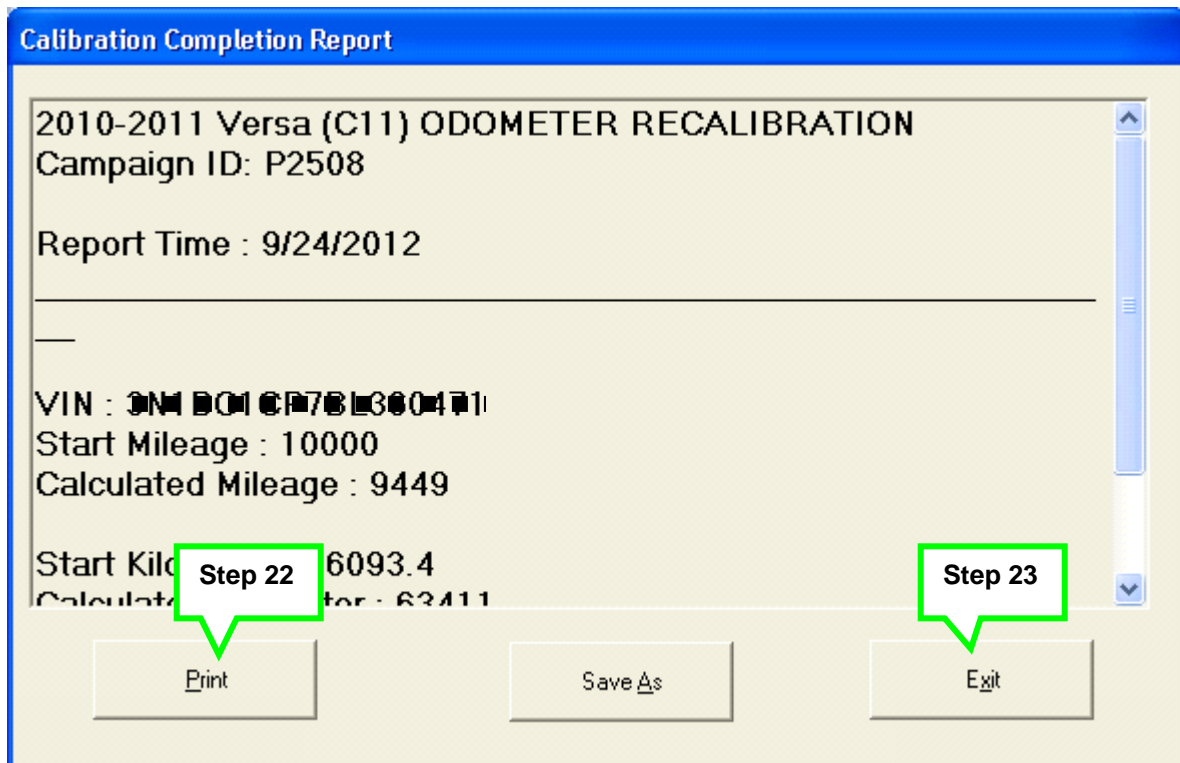

Figure 1n
21. After waiting 2 minutes, the “Calibration Completion Report” will display (Figure 1n).
7. Make sure the mileage on the odometer matches the Calibrated Mileage on the Calibration Completion Report (see example previous page – Figure 1n).